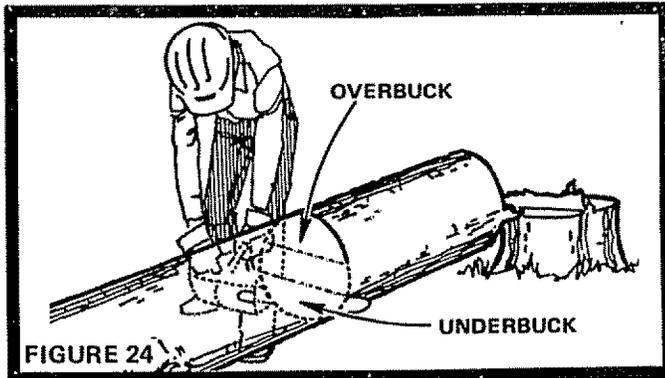

FIGURE 24
3. Logs that are supported on both ends can be overbucked 1/3 log diameter then finished from the bottom (Fig. 24).